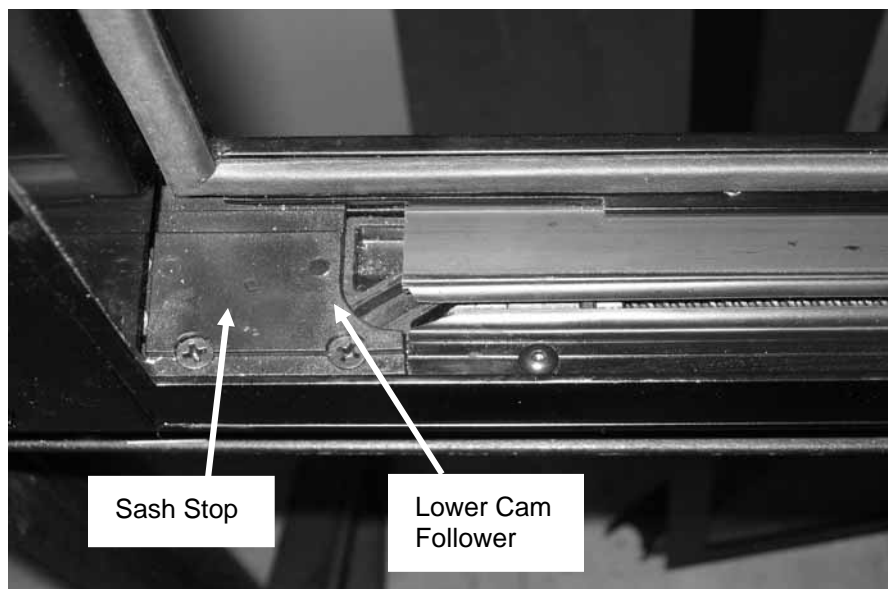

FIGURE 43: PROPER ALIGNMENT
1. Align the leading edge of the slot on the lower cam follower block with the sash stop. Use the power toggle switch to obtain the correct alignment. (Figure 43)